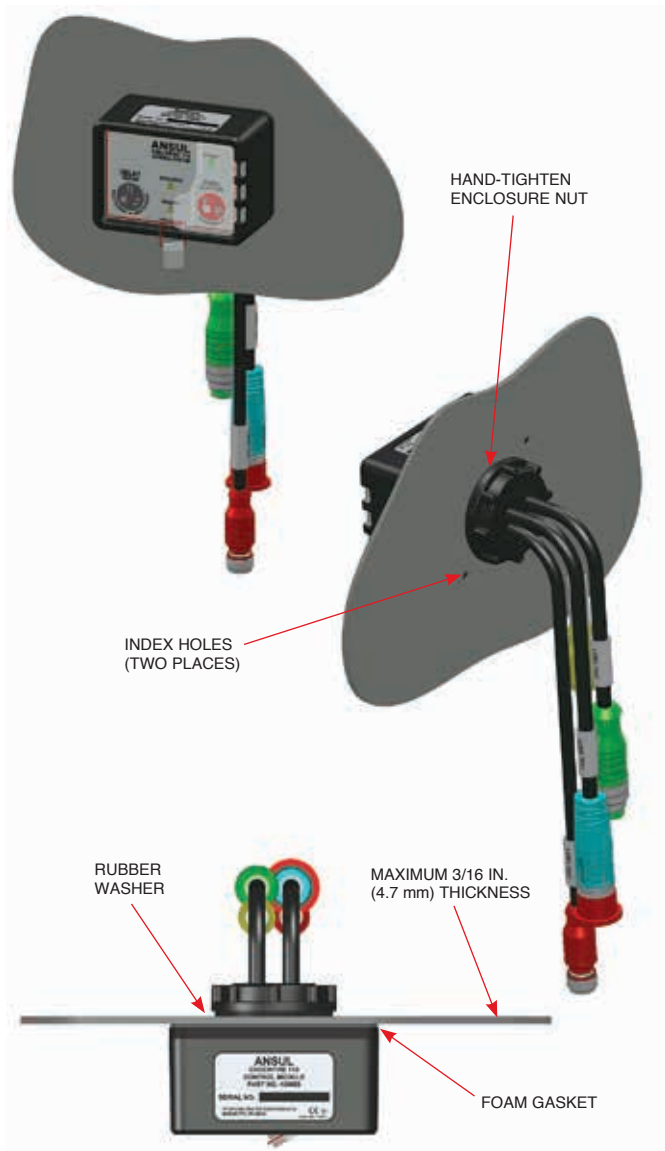

FIGURE 5-3
- Hand-tighten enclosure nut on threaded boss, see Figure 5-3.